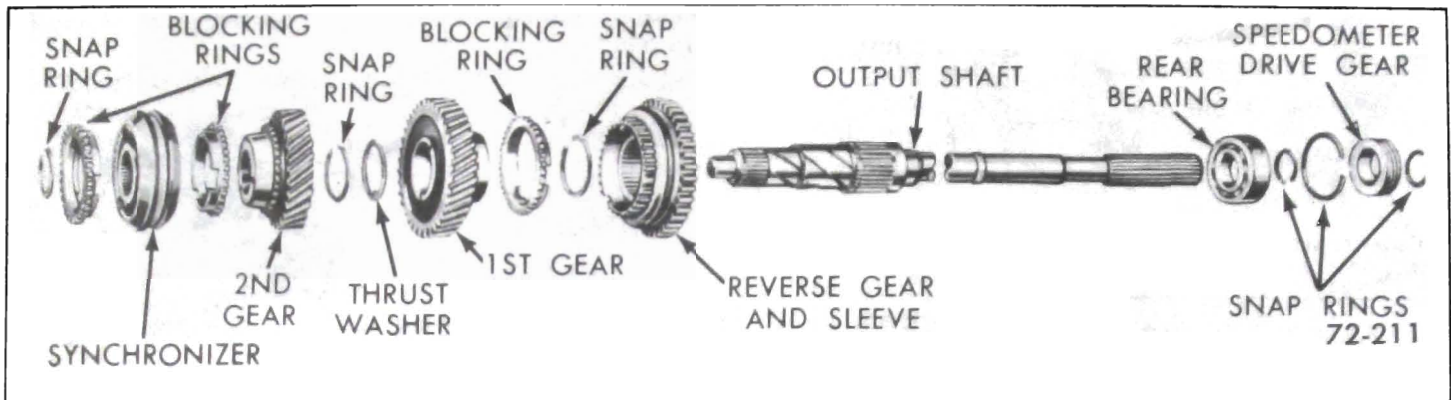

Figure 72-211 - Exploded View of Mainshaft
72-5 DISASSEMBLY OF MAINSHAFT (SEE FIGURE 72-211)
7. Slide the first-reverse gear and sleeve assembly onto mainshaft with teeth of gear facing toward rear of shaft and secure with snap ring. See Figure 72-211.
8. Coat tapered machine surface on first speed gear with grease. Place blocking ring on greased surface. See Figure 72-211.
9. Slide first speed gear onto mainshaft with blocking ring toward rear of shaft. Rotate gear as necessary to engage three notches in blocking ring with synchronizer inserts. See Figure 72-211.
13. Slide second speed gear with blocking ring and second-third speed gear synchronizer onto mainshaft. Tapered machined surface of second speed gear must be toward the front of shaft. See Figure 72-211.